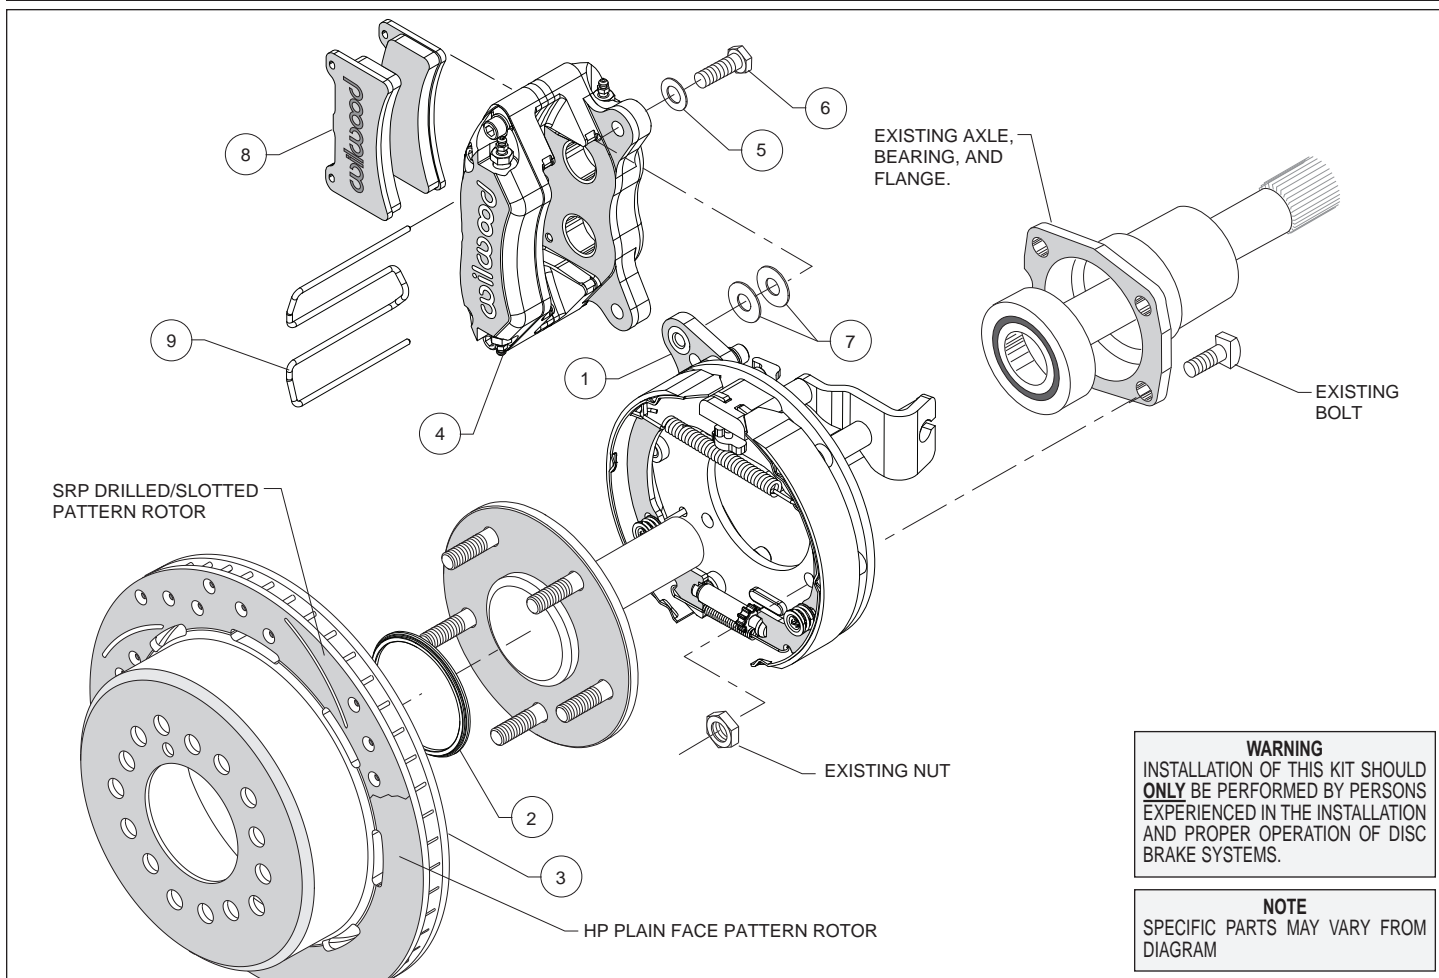
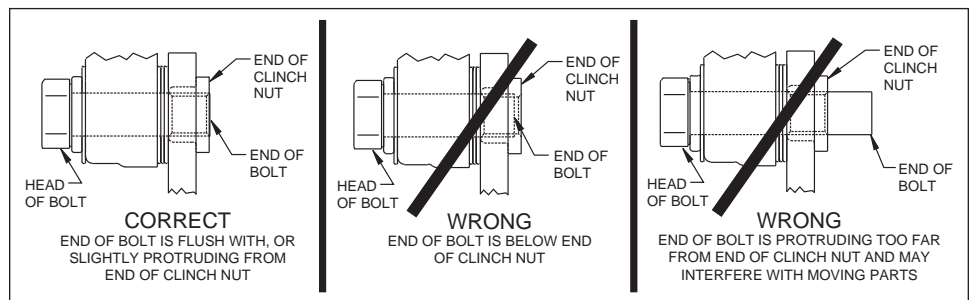

Figure 1. Typical Installation Configuration
Figure 4. Clinch Nut Engagement Diagram
**Assembly Instructions** (numbers in parenthesis refer to the parts list, and Figure 1 on the preceding pages): **CAUTION:** All mounting bolts must fully engage clinch nuts. Be sure to check that all bolts are either flush or protruding through flanged side of clinch nut after shimming, Figure 4.
- Orient the bracket assembly (1), as shown in Figure 1, and mount to the axle housing flange using the Original Equipment Manufacturer (OEM) bolts and nuts, Figure 1. Ensure that the bracket assembly backing plate fits flush against the axle housing flange. Apply red *Loctite*® 271 to the OEM bolt threads and torque to OEM specifications.
- Slide the rotor registration adapter (2) onto the axle register on the axle flange with the smaller O.D. facing toward the rotor/hat (3), Photo 1. Align the correct hole pattern in the rotor/hat with the stud pattern on the axle flange and slide into place, Figure 1 and Photo 2. **NOTE:** The rotor/hat must fit flush against the axle flange or excessive rotor run out may result. Install three lug nuts (finger tight) to keep the rotor/hat assembly in place while continuing with the installation. **NOTE:** Some OEM and after market axles come with stud sizes larger than 0.50" diameter. Verify stud size and have a qualified machine shop drill the bolt circle of the hat/rotor to the correct stud size, if necessary.
•**NOTE:** Please reference the caution statement at the beginning of the assembly instructions. Mount the caliper (4) onto the caliper mounting bracket (1) using bolts (6) and washers (5), as shown in Figure 1. Initially place two .035" thick shims (7) on each bolt between the caliper and the bracket, Photo 3. Temporarily tighten the mounting bolts and view the rotor (3) through the top opening of the caliper. The rotor should be centered in the caliper, Photo 4. If not, adjust by adding or subtracting shims between the bracket and the caliper. Always use the same amount of shims on each of the two mounting bolts. **NOTE:** The end of each bolt must be flush with or slightly protruding from the head of the clinch nut, as shown in Figure 4. If necessary place spare shims between washer (6) and caliper mounting ear to achieve the proper clinch nut engagement. Once the caliper alignment and clinch nut engagement are correct, remove the bolts one at a time, apply red *Loctite*® 271 to bolt threads, and torque to 40 ft-lb.